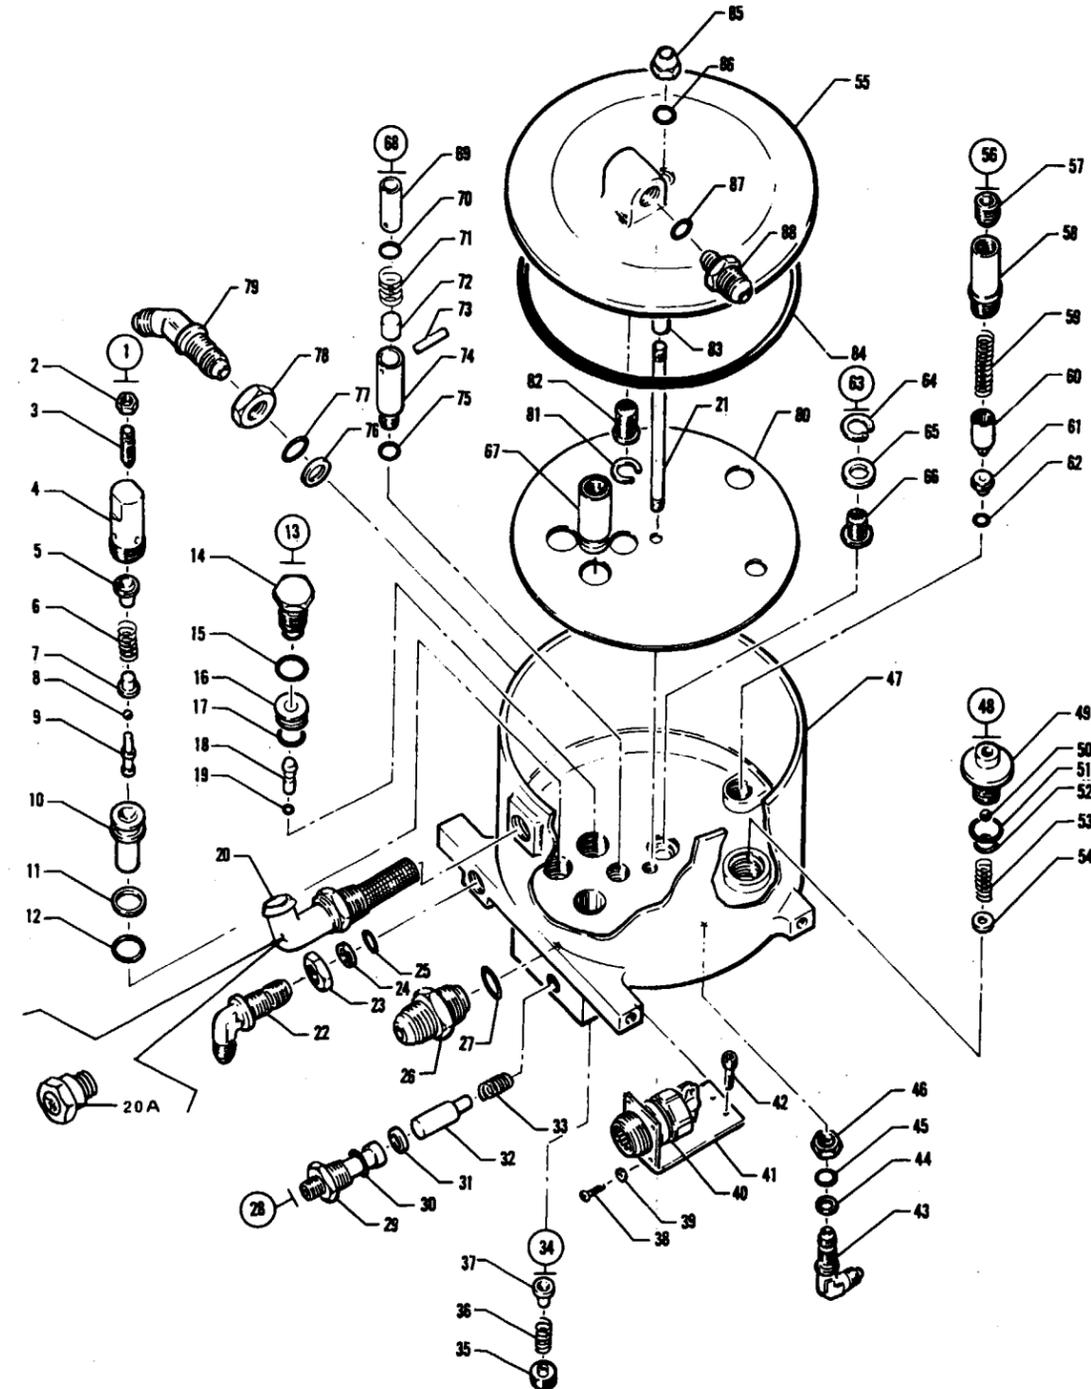

Figure 6-5. Hydraulic Power Pack (Ozone)
6-32. DISASSEMBLY OF POWER PACK. (Refer to Figure 6-5.) After the Power Pack has been removed from the airplane and all ports are capped or plugged, spray with cleaning solvent (Federal Specification P-S-661, or equivalent) to remove all accumulated dust or dirt. Dry with filtered compressed air. To disassemble the unit, proceed as follows:
- f. Remove the landing gear handle-release retainer (17) (adjusting plug), nut (31), spring (18), screw (32), and poppet (20) from the manifold. The end of the poppet has a ball which should remain in the poppet. If it doesn't, remove the ball from the manifold.
- 6-34. DISASSEMBLY OF HAND PUMP SUCTION SCREEN. (Refer to Figure 6-5.)
- a. Remove the suction screen (66) by removing the snap ring (64) and spacer (65).
- 6-35. DISASSEMBLY OF HAND PUMP RELIEF VALVE. (Refer to Figure 6-5.)
- a. Remove the adjusting plug (57) at the top of the hand pump relief valve.
- b. Remove the hand pump relief valve retainer (58) by unscrewing from the body.
- c. Remove the spring (59) and poppet (60) from the body.
- d. Use a brass hook to remove the seat (61) from the body. Use care to prevent scoring the bore.
- e. Remove the "O" ring (62) from the bottom of the cavity.
- 6-36. DISASSEMBLY OF MAIN RELIEF VALVE. (Refer to Figure 6-5.)
- a. Loosen the locknut (2) at the top of the main relief valve.
- b. Remove the adjusting screw (3) and locknut (2) from the top of the relief valve.
- c. Unscrew the retainer (4).
- d. Remove the two buttons (5 and 7), spring (6) and ball (8).
- e. Remove the poppet (9) from the poppet seat (10) by lifting out of the poppet assembly. The poppet and poppet seat are matched parts.
- 6-37. DISASSEMBLY OF PRIORITY VALVE. (Refer to Figure 6-5.)
- a. Remove the priority retainer (14) from the reservoir.
- b. Turn the Power Pack upside down and remove the retainer (35) (adjusting plug), spring (36) and button (37) from the bottom of the Power Pack.
- c. While the Power Pack is upside down, push the poppet (18) and poppet seat (16) into the reservoir, using a punch of .125 inch maximum diameter. Make sure that the face of the punch is square and flat.
- 6-38. DISASSEMBLY OF HAND PUMP CHECK VALVE. (Refer to Figure 6-5.)
- a. Remove the system pressure port fitting (29). The spring (33) and plunger (32) should fall out of the Power Pack after the "O" ring (31) is removed. Use hook, if necessary to remove the "O" ring.
6-39. DISASSEMBLY OF STANDPIPE AND FILTER. (Refer to Figure 6-5.)